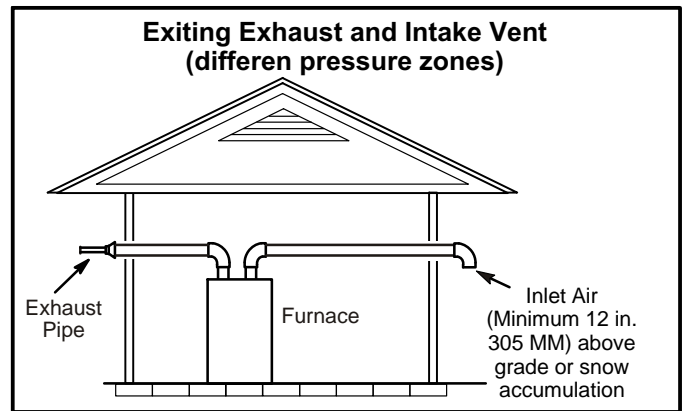
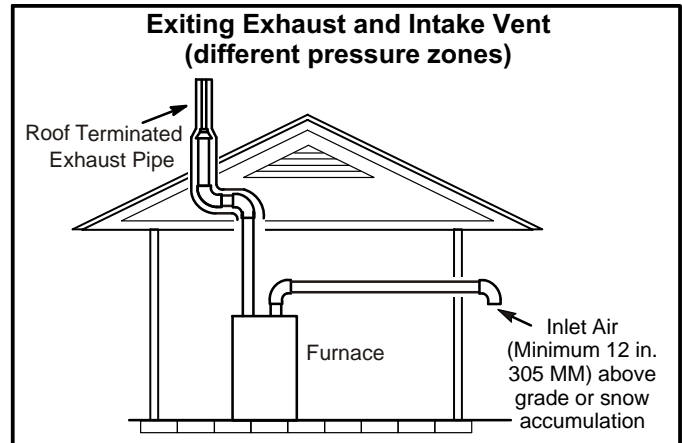

FIGURE 39
FIGURE 40
1. Intake and exhaust terminations are not required to be in the same pressure zone. You may exit the intake on one side of the structure and the exhaust on another side (figure 39). You may exit the exhaust out the roof and the intake out the side of the structure (figure 40).